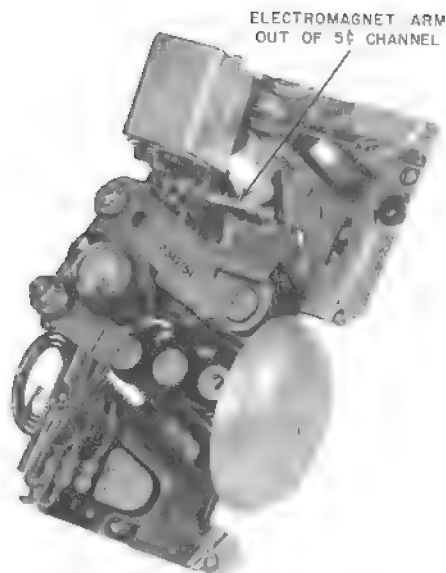

Fig. 67—Dial Postpay Coin Chute
6.141 Position electromagnet arm so that end is out of 5-cent channel (see Fig. 67). Insert 529A tool in top of coin hopper to retain test coins.